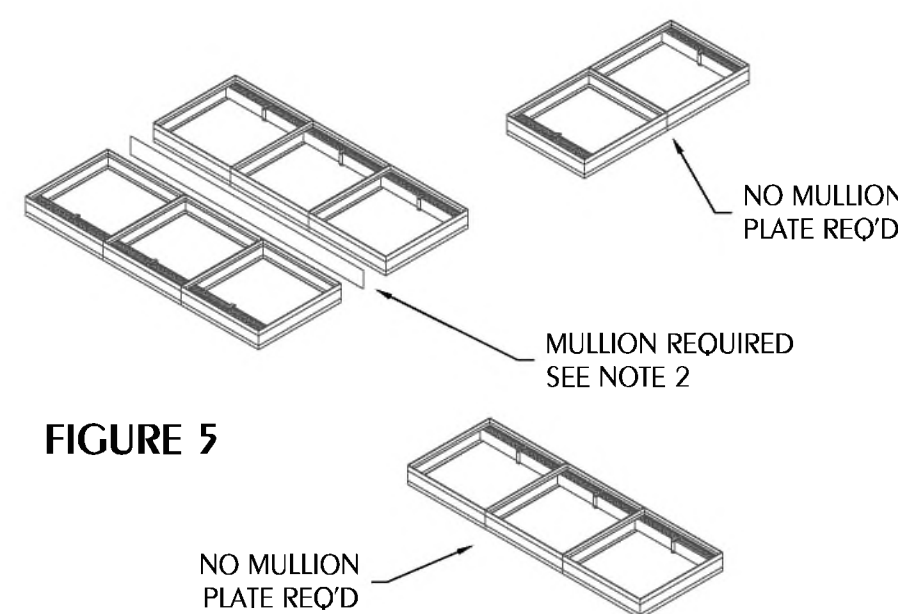

FIGURE 5
- Multiple section horizontal mount dampers require a 14 gage thick x 41/2" (2 x 114) wide steel reinforcing plate sandwiched between the damper frames with 1/2" (13) long welds staggered intermittently and spaced on maximum 6" (152) centers. The reinforcing plate must be the same material as the dampers. The length must be equal to the damper width of two or more adjoining damper sections. Reinforcing plates are not required for assemblies consisting of two dampers attached end-to-end or three dampers attached side-to-side as depicted in figure 5.
- 36" (914) wide: the sleeve shall be a minimum of 1/4" (6) for dampers up to 36" (914) wide by 24" (610) high and 14 gage (1.9) for dampers exceeding 36" (914) wide by 24" (610) high. Damper sleeve shall not extend more than 6" (152) beyond the fire wall or partition unless damper is equipped with a factory installed access door. Sleeve may extend up to 16" (406) beyond the fire wall or partition on sides equipped with a factory installed access door.
- Mounting angles shall be a minimum of 11/2" x 11/2" x 20 gage steel (38 x 38 x 1.0). For openings in metal stud, wood stud walls or concrete/masonry walls and floors of sizes 90" x 49" or 49" x 90" (2286 x 1245 or 1245 x 2286) and less mounting angles are only required on one side of the wall or top side of the floor and must be attached to both the sleeve and the wall or floor. Mounting angles may be installed directly to the metal stud under the wall board on metal stud wall installations only. Larger openings require mounting angles on both sides of the partition and must be attached only to the sleeve. Mounting angles must overlap the partition a minimum of 1" (25). Do not weld or fasten angles together at corners of dampers. Ruskin fire dampers may be installed using Ruskin FAST angle for one angle installation or Ruskin PFMA for two angle installations.